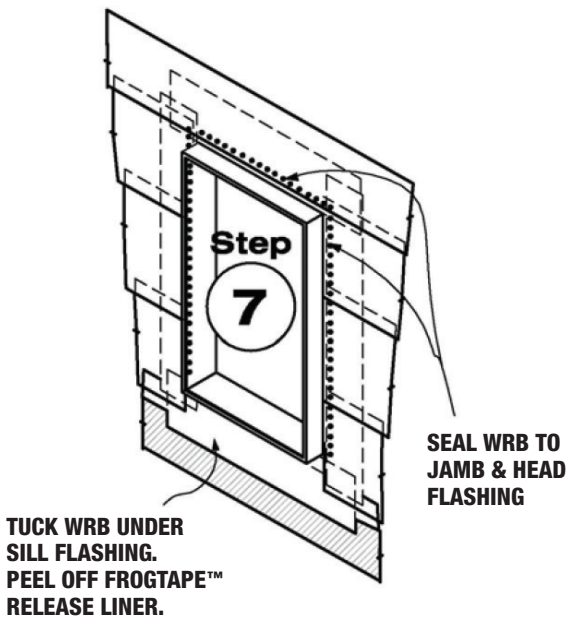

Figure 8 Install WRB and seal around perimeter.
Step 7. Install WRB shingle fashion from bottom of wall to top. Insert WRB under the strip of FrogTape Pro Grade Flashing Tape applied to the windowsill. Peel off remaining release liner from FrogTape Pro Grade Flashing Tape and adhere to WRB. Seal edges of WRB to FrogTape Pro Grade Flashing Tape along the window jambs and head (see Figure 8).